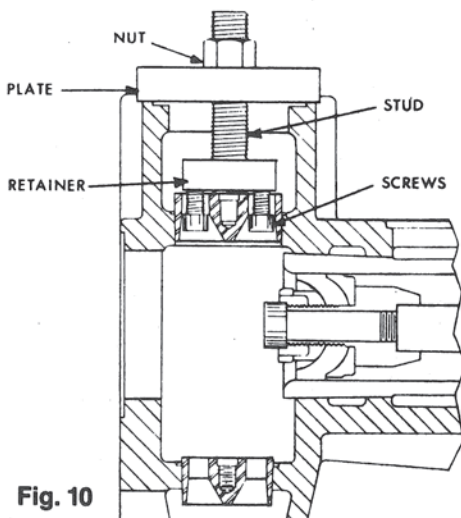

Fig. 10
- B. Use Kit 19555B. Assemble stud, retainer and three LARGE screws as shown in Fig. 10. Insert screw heads thru holes in valve seat, rotate retainer to right until heads catch, and secure in place by screwing down stud firmly by hand. Place plate over stud, screw on nut, and torque slowly with wrench until seat breaks loose.